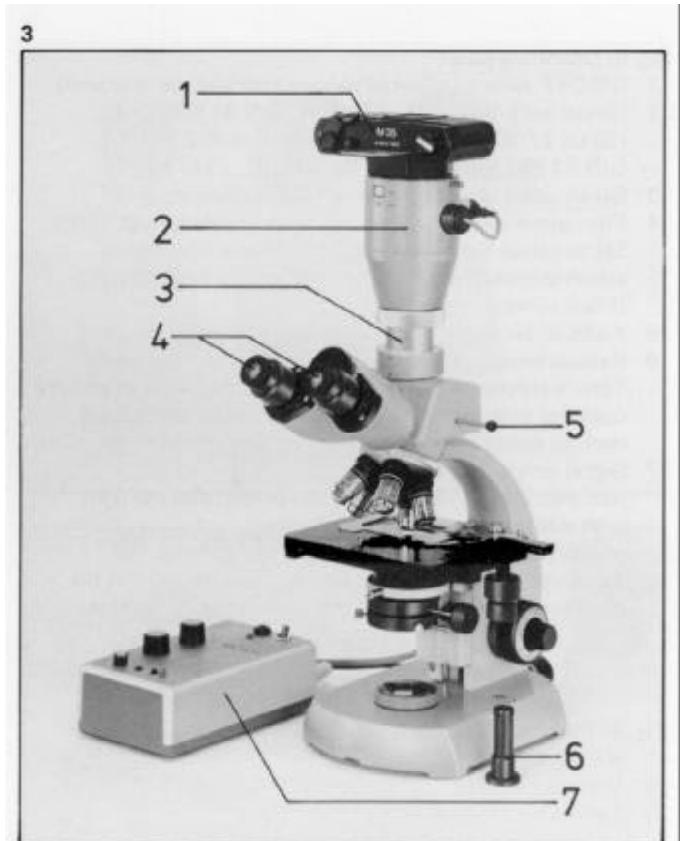

Fig. 4: MC 63 A photomicrographic camera for large formats 9x12 cm/4x5'' on Universal microscope (the mounting is the same on a Photomicroscope)
1) (4.5), for instance, meaning Fig. 4 item 5